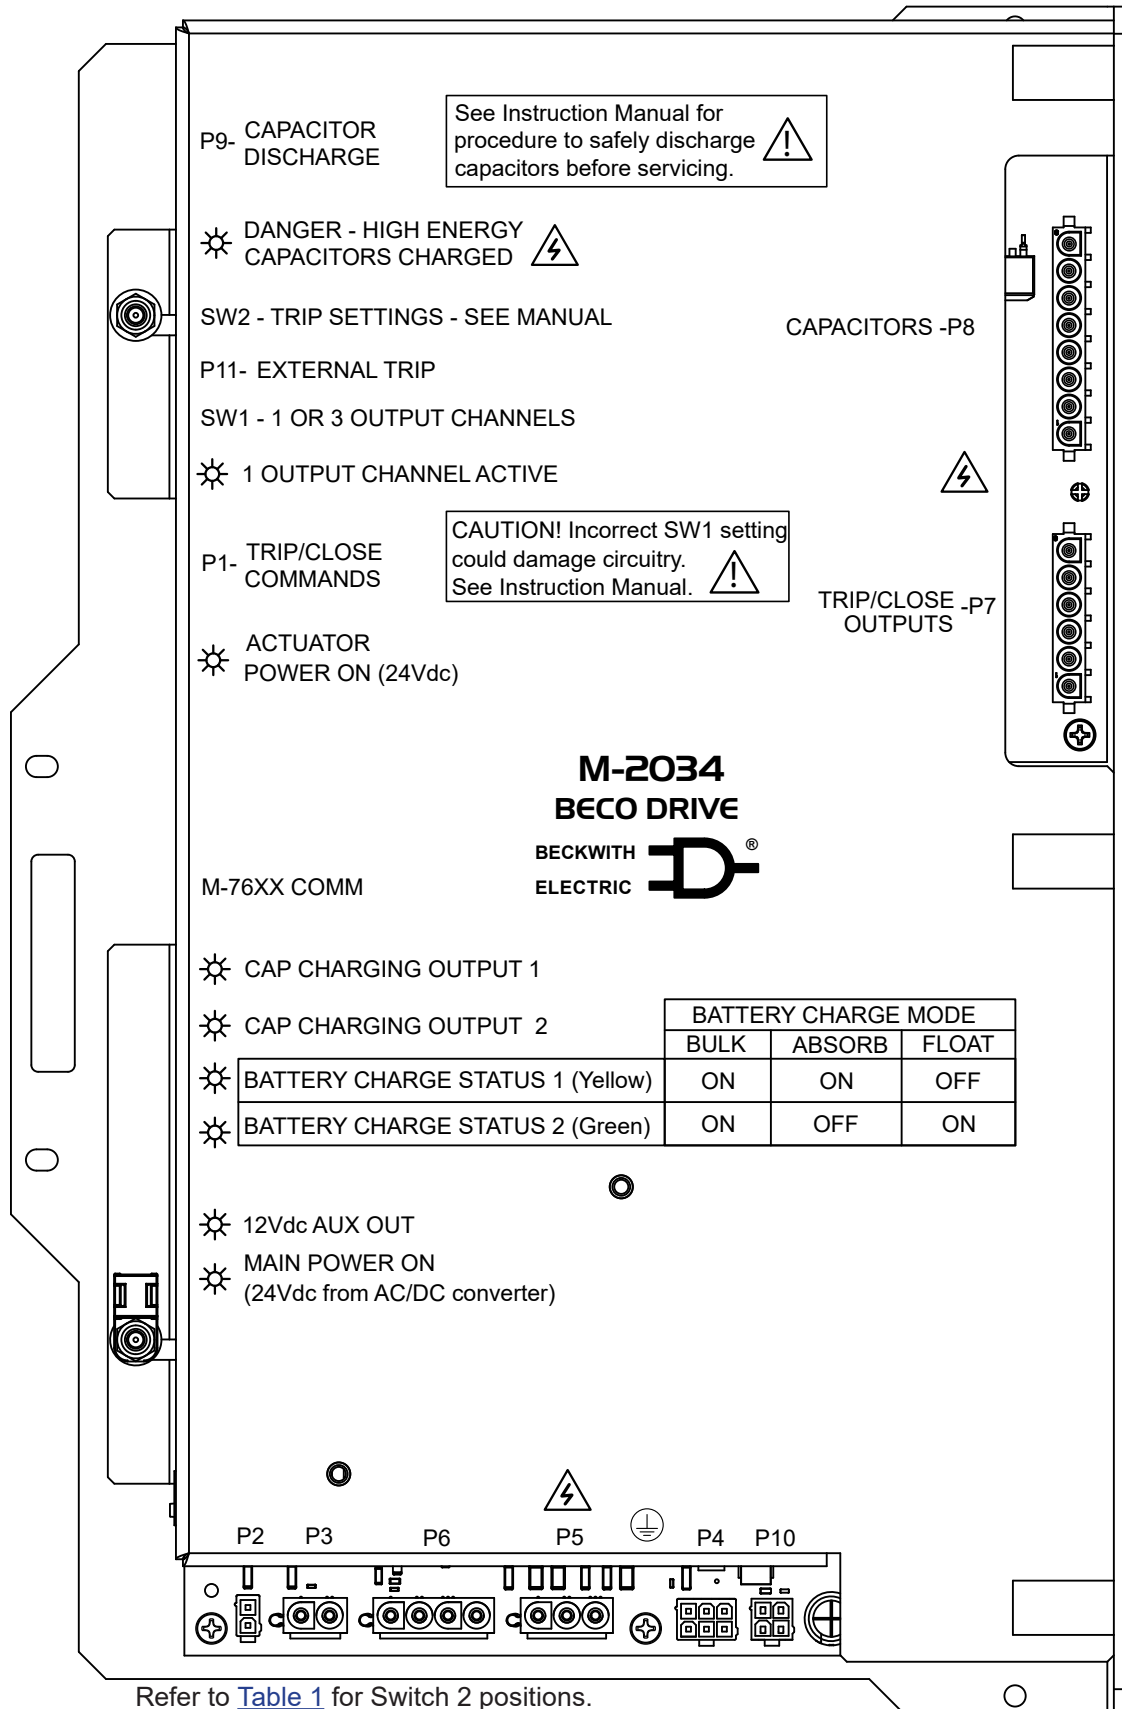
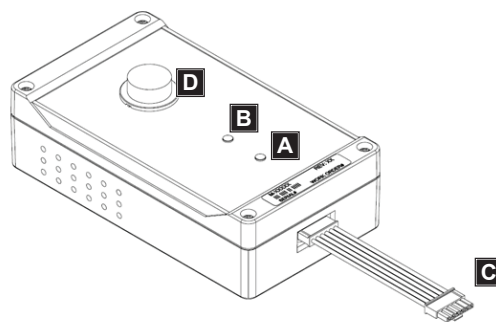

Figure 10 M-2034 BECO DRIVE
Figure 12 M-2017 Capacitor Discharge Tool with Parts Identified
The Beckwith Electric Capacitor Discharge Tool (Figure 12) discharges high-energy capacitors in Beckwith Electric cabinets within two minutes. The M-2017 tool connects to the M-2034 BECO DRIVE (Figure 10) via a 6-pin plug with terminations for 24V, GND, CAP1+, CAP2+ and CAP-.
NOTE: If the CDT detects the presence of Main power or 24 V in a target unit, the 24 V blue LED (A, Figure 12) will be lit and the CDT will be unable to discharge the capacitors.
1. Disconnect both ac and dc battery sources. The red Cap Power LED (B) will be lit to indicate the presence of hazardous CAP1+ & CAP2+ voltage. **DO NOT TOUCH THE CAPACITORS.**
2. Connect the M-2017 P1 plug (C) to the capacitor discharge connector (P9, Figure 10) on the M-2034. If the capacitor is energized and can be safely discharged, only the red LED (B) will be lit.
3. Press the push button (D) to begin safely discharging the connected capacitors. The Capacitor Discharge LED (B) will dim as capacitor voltage is reduced and turn off when detected voltage has decreased to safe levels. **NOTE:** LED brightness depends on the ambient light. In darker environments, LED brightness will be more noticeable.
4. Disconnect the P1 plug (C) from the M-2034 BECO DRIVE and safely begin work.